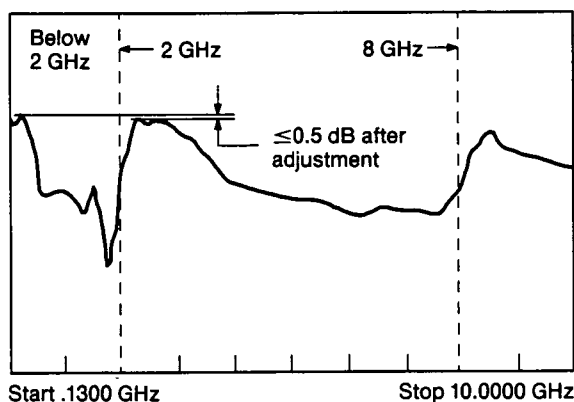

Figure 12. Typical Power Level Plot
(1) _____ dBm _____ dBm	(2) _____ dBm _____ dBm
(3) _____ GHz _____ GHz	(4) _____ dBm _____ dBm	(5) _____ GHz _____ GHz
4. Rotate the RPG knob slowly to increase the frequency to 10 GHz. Change the cal factor of the power meter as required. Note the maximum power level and frequency (one or two peaks, typically around 2.2 GHz and 8 GHz) in columns 4 and 5. Figure 12 shows a typical power level plot.
8. Ultimately, the maximum power level below 2 GHz must be within 0.5 dB of the maximum power level above 2 GHz, as shown in Figure 12. When adjusted, perform the following automatic leveling control adjustment.